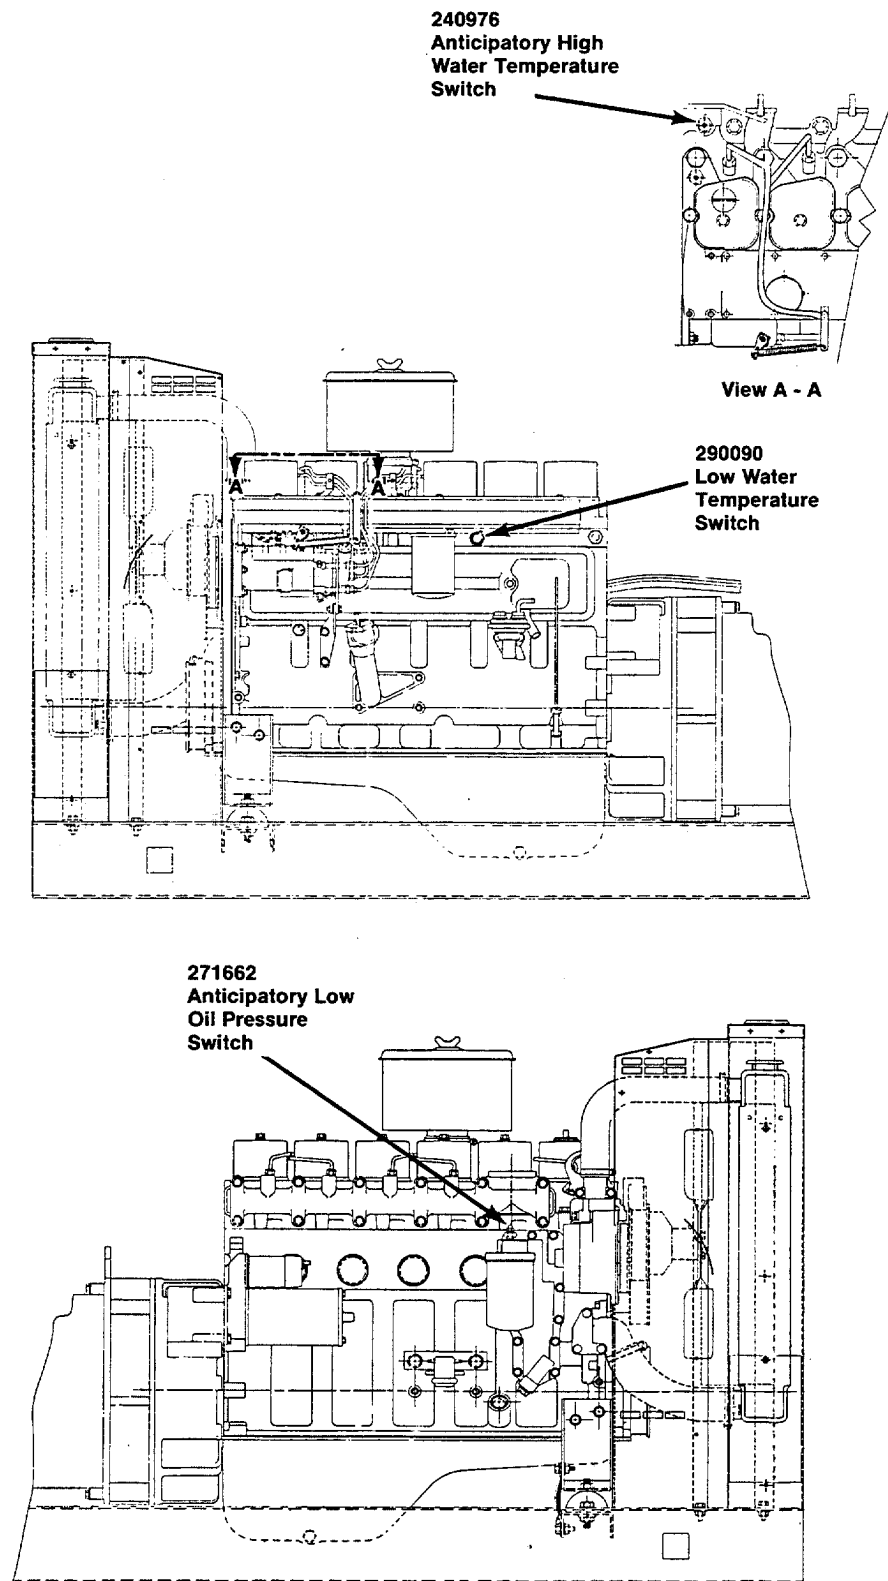

Figure 1. Anticipatory Alarm Locations
3. Remove pipe plugs for low water temperature switch, anticipatory high water switch, and anticipatory low oil pressure switch. See Figure 1 for locations.
4. Coat threads of switches with pipe sealant and install in their respective locations. See Figure 1.